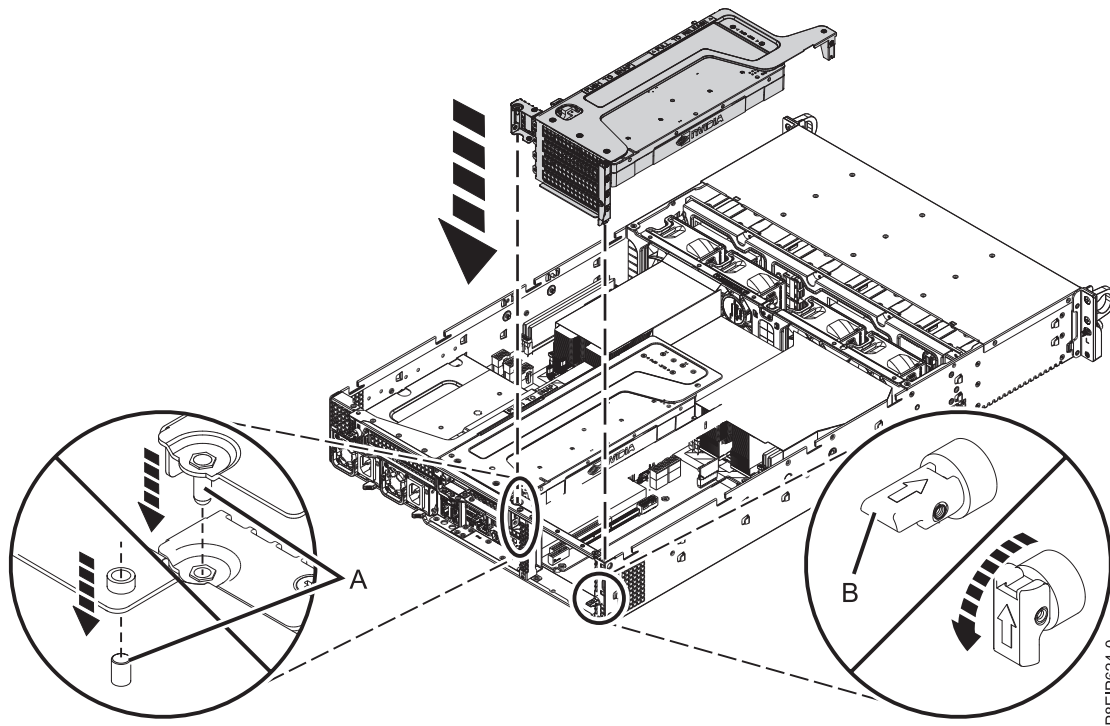

Figure 57. Inserting the PCIe adapter riser
- j. Insert the PCIe riser as shown in Figure 57 on page 87.
- 1) Retract the retaining pin (B) so the arrow points to the system.
- 2) Insert the riser, using the slots and alignment pins (A) to properly insert the riser. Push the riser firmly into the system backplane.
- 3) Set the retaining pin (B) to secure the riser.